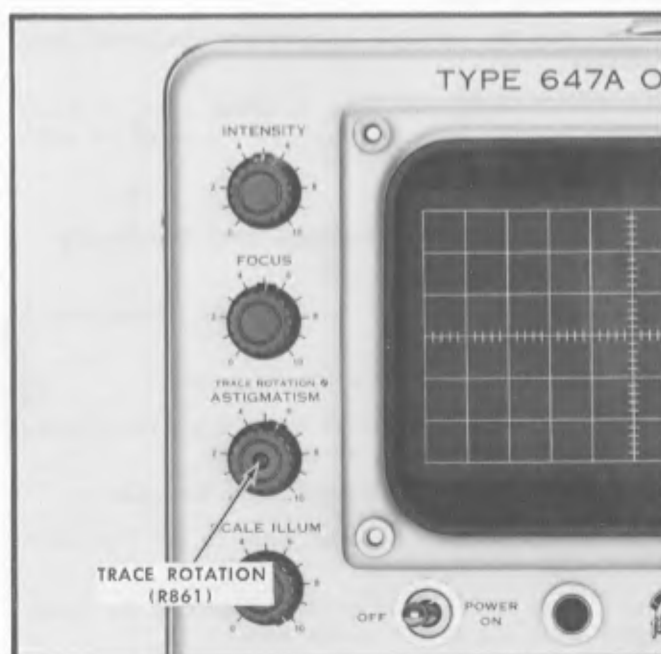

Fig. 5-1. Location of TRACE ROTATION control, R861.
h. ADJUST—TRACE ROTATION control, R861 (see Fig. 5-1), so the trace is parallel to the horizontal graticule line.